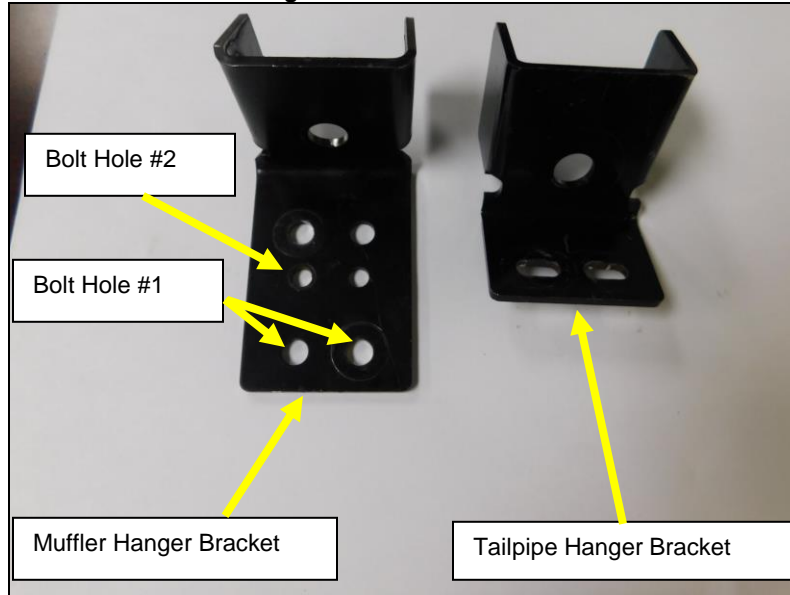

Figure 4
3. Install a provided 5/16 x1 bolt in to each bolt hole position # 1 on the muffler hanger bracket (**Figure 4**).